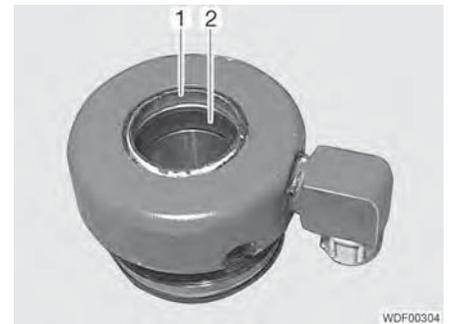
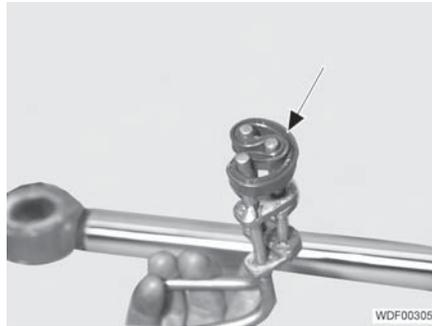

Fig. 108 Outside of the guide bush
Fig. 109 Annular seal with insertion tool
- Remove the annular seal (Fig. 108,2).
- Remove the dust arrester (Fig. 108,1).
- Insert the dust arrester (Fig. 108,1) into the guide bush so that the seal lip faces outwards.
- Slightly grease the annular seal (Fig. 108,2) and, with the insertion tool (Fig. 109), insert it into the guide bush so that the groove faces inwards.